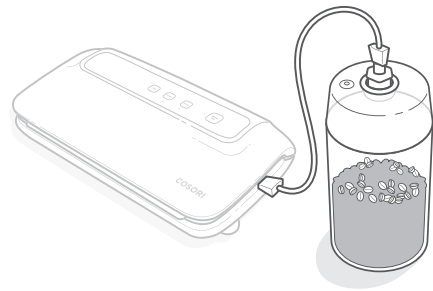

Figure 3.2
3. Connect the hose end to the vacuum sealer's hose port, then connect the adapter to the appropriate port on the container. [Figure 3.2]